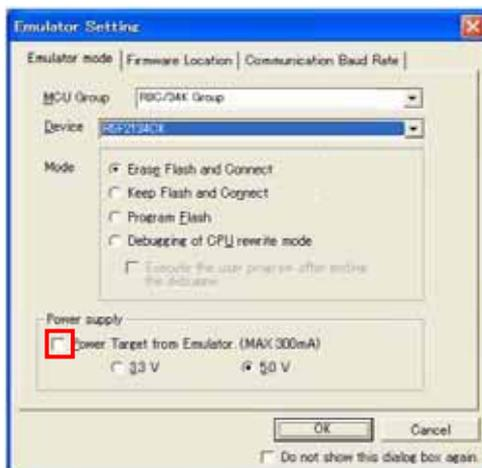

Figure 9 E8a Power Supply Check Box
When you select “stabilized power supply (DC)” as the main power supply (JP1) for the evaluation board, **“Remove”** the check from the box next to “Supply power from emulator” as shown in Figure 9.